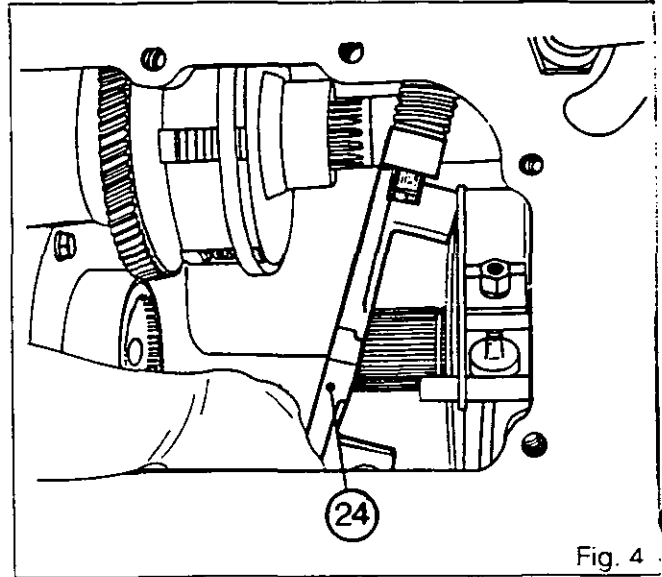

Fig. 4
22. Remove the closing plate (24) and the control shaft (20).
**Note:** Keep the mechanism (31) and the brake discs (30) towards the rear. Withdraw the closing plate (24) (Fig. 4), inclining it in order to disengage it from the dowel (18), the finger (23) and the bevel drive pinion (26) and to release the shaft (20) from the housing.
23. Remove the spring (17) and the washer (22).
24. Remove the retainer ring (21) (if necessary) on the control shaft (20).
25. Remove the discs (30) and the mechanism (31).